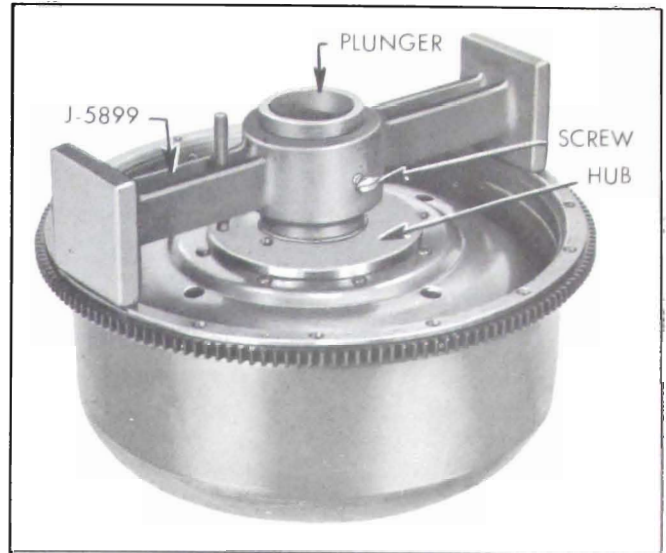

Figure 5-129—Gauge J-5899 on Pump and Turbine
5. Install Converter Clearance Gauge J-5899 on converter pump flange, making sure that indicator post does not contact the turbine support. Loosen wing screw, firmly press gauge plunger down against first turbine hub and tighten wing screw. See Figure 5-129.